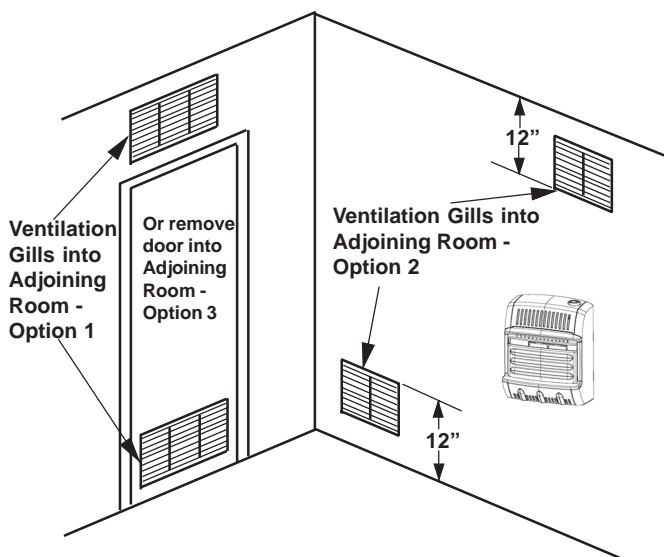

Figure 2
- A. Rework worksheet, and the space of an adjoining room. If the extra space provides an unconfined space, remove door to adjoining room or add ventilation grills between the rooms. See Ventilation Air From Inside Building (Fig. 2)
This fresh air would come from an adjoining unconfined space. When ventilation to an adjoining unconfined space, you must provide two permanent openings: one within 12" of the ceiling and one within 12" of the floor on the wall connecting the two spaces (see options 1 & 2 of fig. 2). You can also remove door into adjoining room (see option 3, fig 2). Follow the National Fuel Gas Code NFPA 54/ ANSI Z223.1, Section 5.3, Air for Combustion and Ventilation for required size of ventilation grills or ducts.